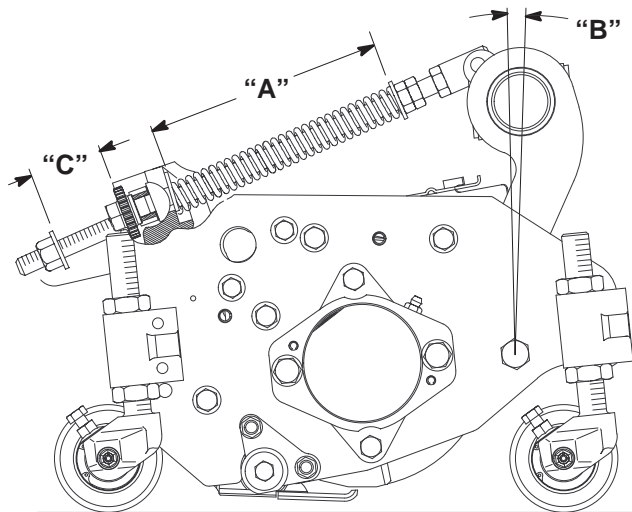

Figure 7
The Turf Compensation Spring (Fig. 7), connecting carrier frame to cutting unit, controls the amount of fore-aft rotation available, as well as the amount of ground clearance in transport and turn around.
1. Tighten lock nut on rear of spring rod until the gap (C) between rear of spring bracket and front of washer is 1 in. (25 mm) (Fig. 7).
2. Tighten hex nuts on front end of spring rod until the compressed length (A) of spring is 8 in. (203 mm) (Fig. 7).
Note: When cutting rough or undulating turf, increase compressed length (A) of spring to 8-1/2 in. (216 mm) and gap (C) between rear of spring bracket and front of washer to 1-1/2 in. (38 mm) (Fig. 7).